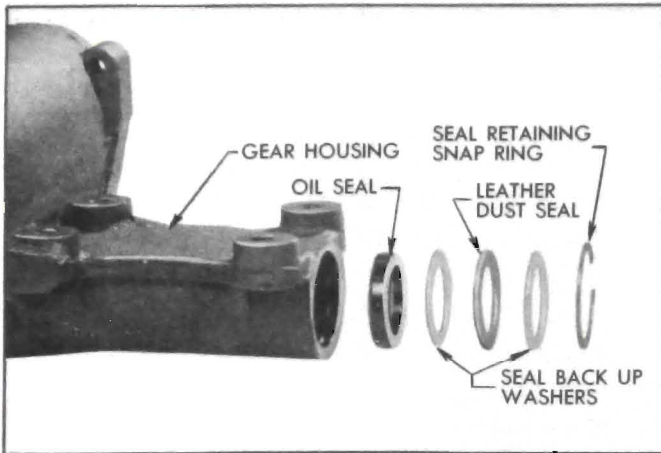

Figure 8-22—Pitman Shaft Seal Assembly
4. Install pitman shaft oil seal with lips inward using Installer J 6219. Install the one seal back-up washer next to seal. Then install leather dust seal and other seal back-up washer. Install pitman shaft seal retaining snap ring with beveled side out using No. 3 Truarc Pliers J 4245. Make certain that retaining ring is properly seated. See Figure 8-22.